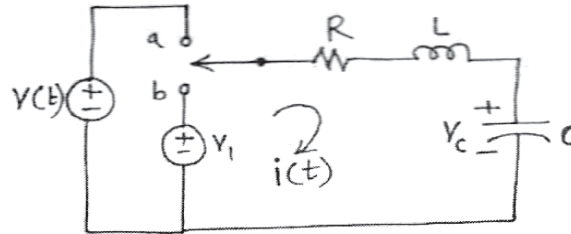

Fig. 5
- b) In the network shown in Fig. 5, switch is moved from position a to b at $t = 0$. Just before this switching the initial conditions were $i(0^-) = 2 \text{ A}$ and $V_c(0^-) = 2 \text{ V}$. Find the expression for current $i(t)$ using Laplace Transform method. Assume $R = 3 \Omega, L = 1 \text{ H}, C = 0.5 \mu\text{F}, V_1 = 5 \text{ V}$. [6]